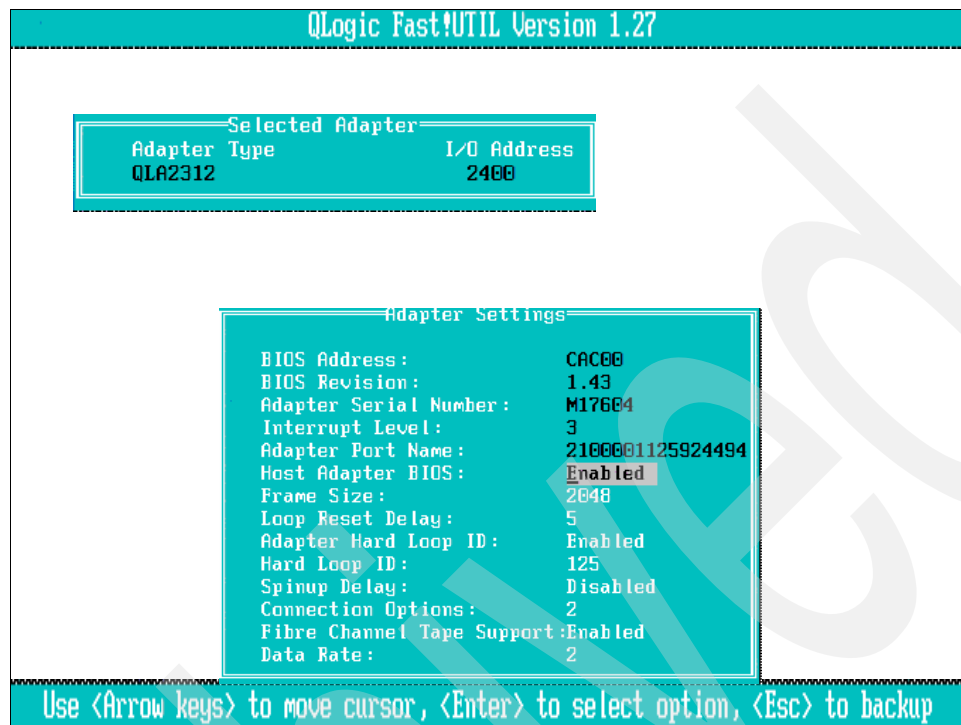

Figure 5-10 Enable FC BIOS
8. Select Configuration Settings - Adapter Settings, as shown in Figure 5-10.